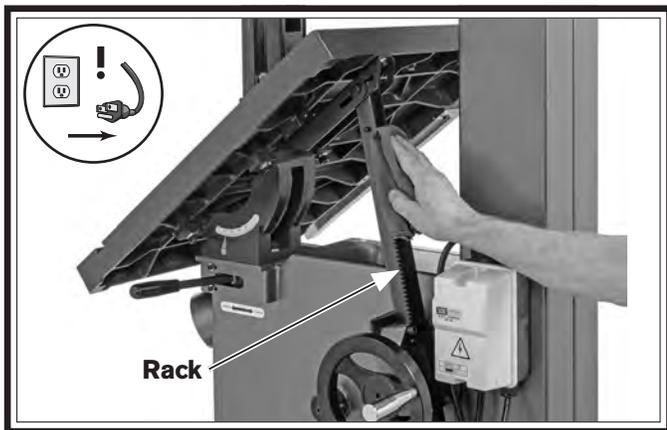

Figure 86. Lubricating table tilt rack and pinion assembly.
3. Move table up to its maximum 45° angle and wipe off all existing grease and sawdust buildup from rack (see Figure 86).